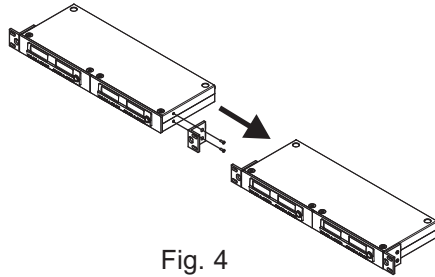

Fig. 4
1. Receivers can be installed on an EIA standard 19-inch rack case, Fig. 4.